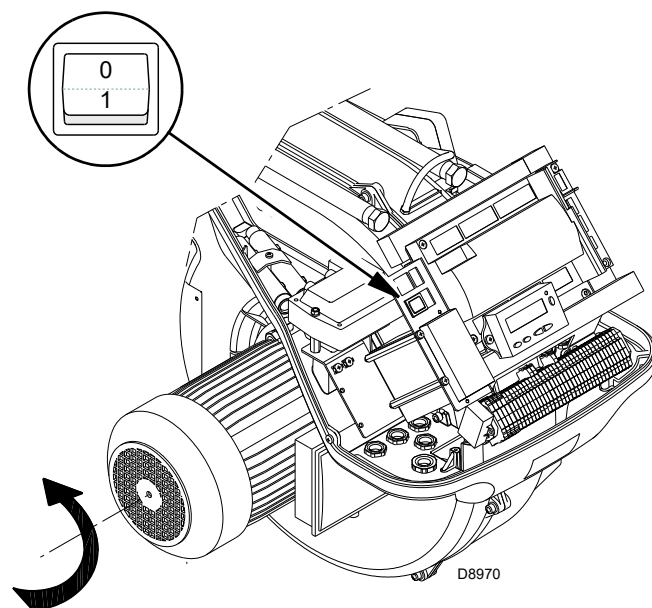

Fig. 33
Close the thermostats/pressure switches and turn the switch of Fig. 33 to position "1".
As soon as the burner starts up, go in front of the cooling fan of the fan motor and check it is rotating anticlockwise. See Fig. 33.
- place the switch of Fig. 33 in position "0" and wait for the control box to carry out the switch-off phase;
The burner is in the heat request waiting mode, or the selector “0-1” (Fig. 33 at page 33) is at “0”.